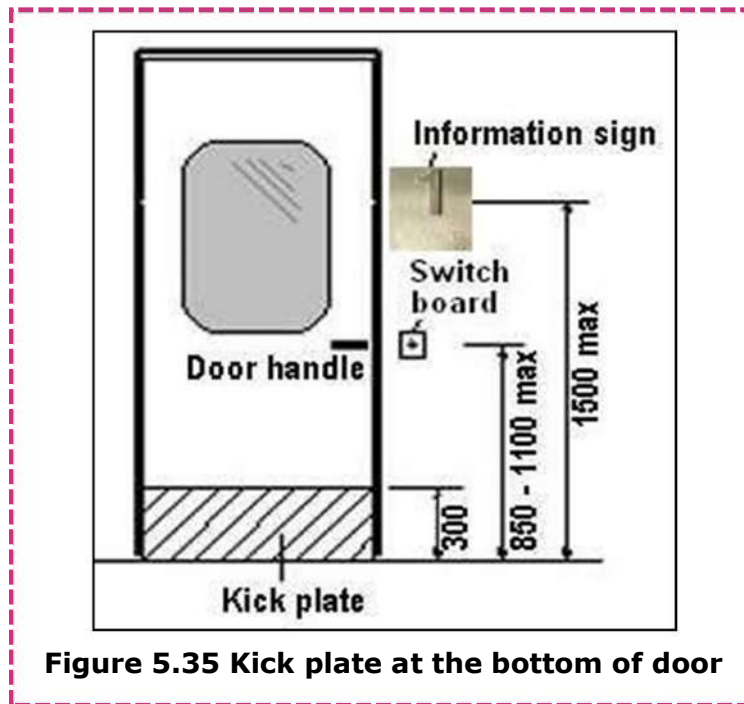

Figure 5.35 Kick plate at the bottom of door
- Kick plates are recommended 300mm from the bottom, to resist wear and tear (**Figure 5.35**)